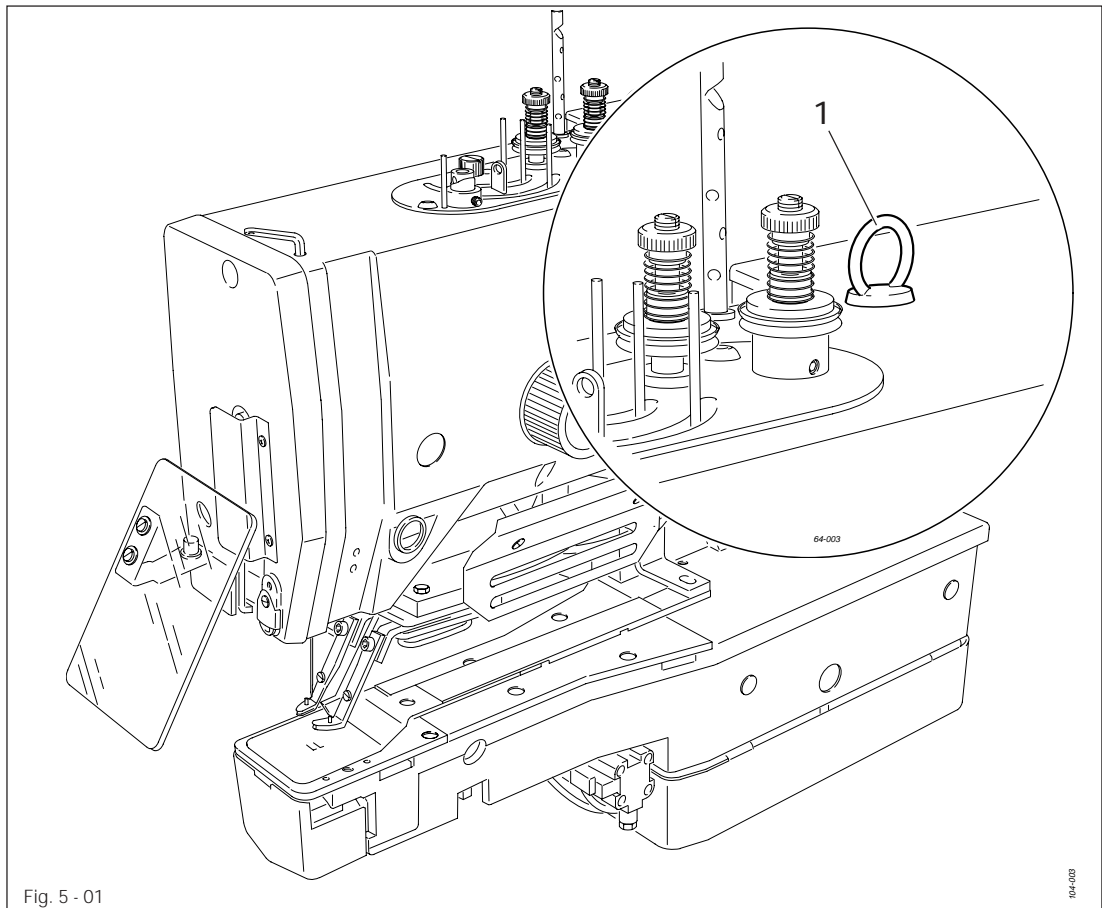

Fig. 5 - 01
- When entering the code number this key corresponds to the figure 5.